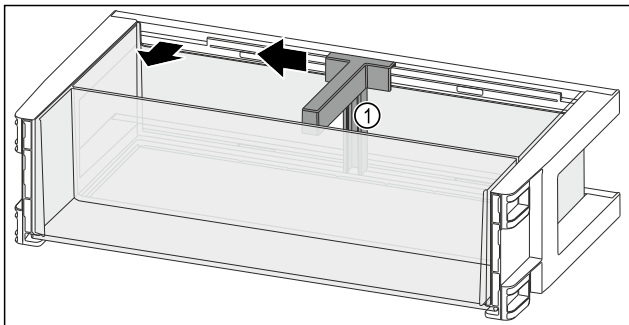

Fig. 132
- ▶ Slide the bottle holder *Fig. 132 (1)* to the side as far as the recess.
- ▶ Remove the bottle holder *Fig. 132 (1)*.